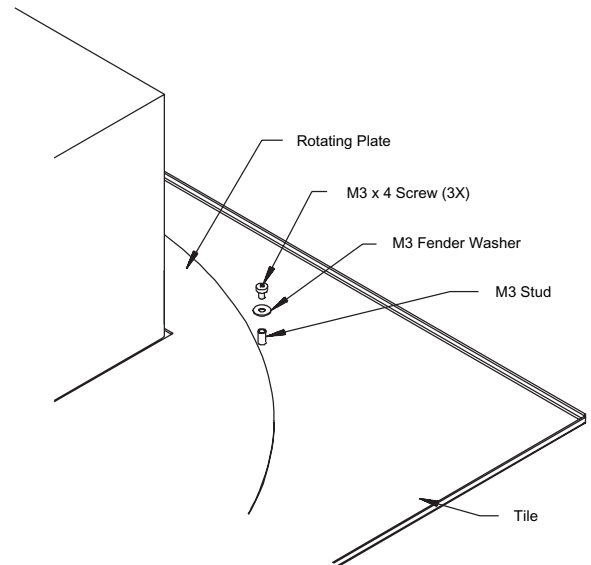

Figure 4: Tile Assembly
7. Secure the M3 screws and washers onto the studs in the tile. Make sure the washers overlap the rotating plate. See Figure 4.